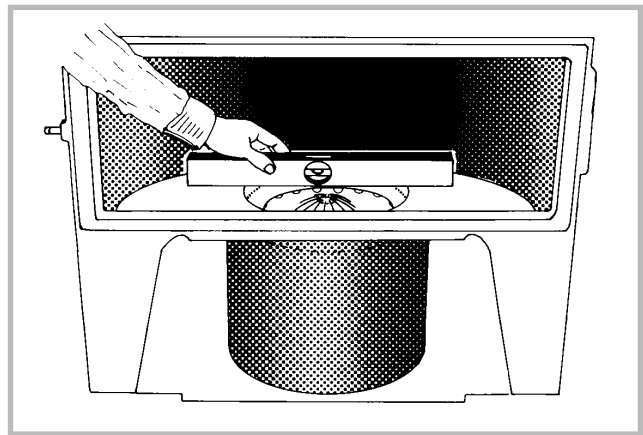

Figure 7 - Burner level check
- Place the level on the burner (fig. 7) and adjust the bolts until the burner has reached a level position.